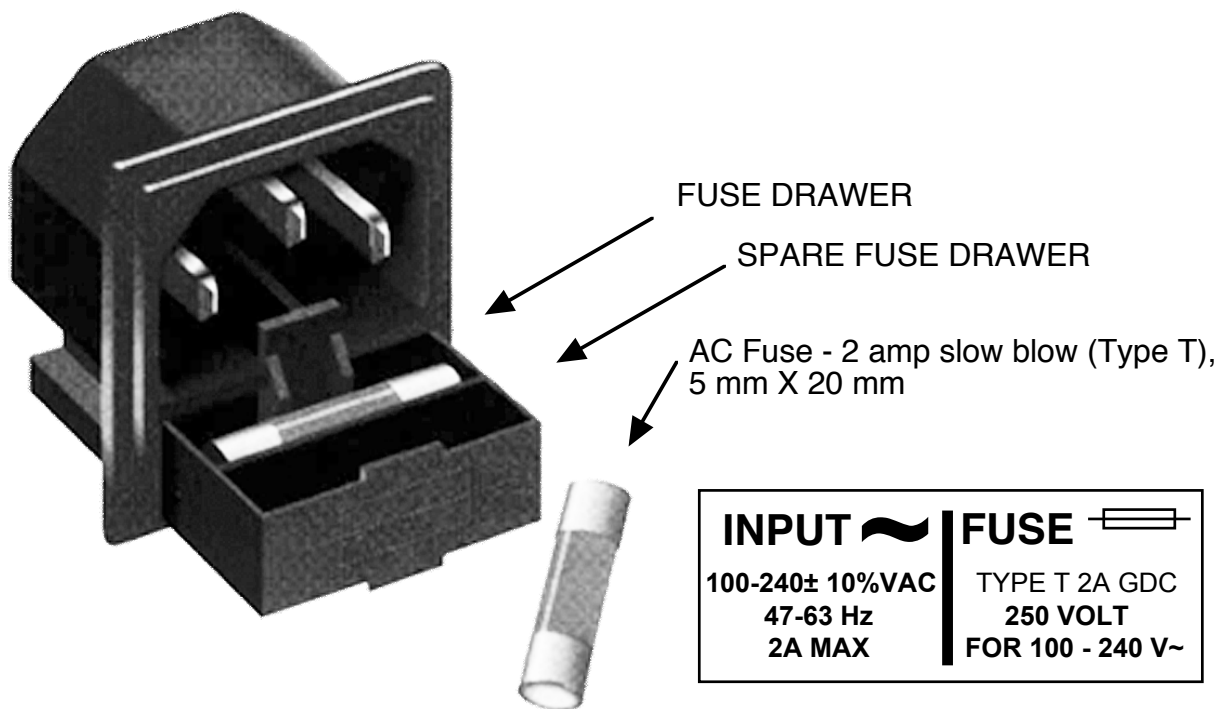

FIGURE 2.3 Fuse Location and Spare Fuse
9. **AC Fuse** - The fuse is a 5 mm X 20 mm, 2 amp slow blow (Type T) and is inserted in the fuse slot in the drawer below the AC input as shown in Figure 2.3. There is a spare fuse in the near slot. If a fuse continues to open, the power supply is most likely defective.